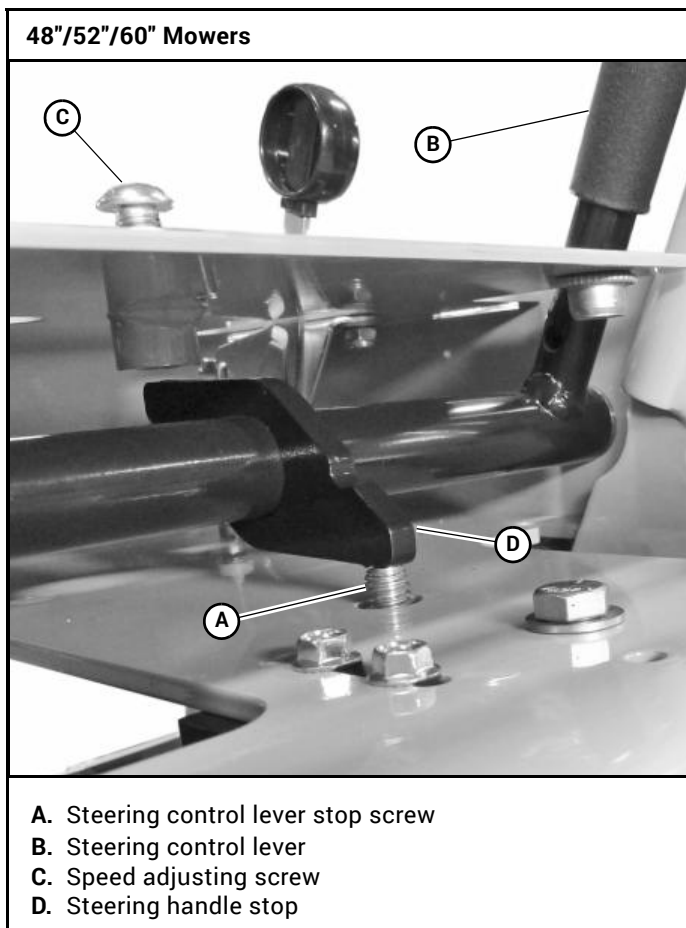

Figure 4-8
3. Loosen the lock nut and back the speed adjusting screw out until it does not contact the steering handle stop. Repeat for other side. Figure 4-8
5. Move the steering control lever on the slower speed side forward until it makes contact with the steering control lever stop. Turn the speed adjusting screw down until it makes contact with the steering handle stop (finger tight). Tighten lock nut. Figure 4-8
6. Move the steering control lever on the faster speed side forward until it makes contact with the steering control lever stop. Turn the speed adjusting screw down until it makes contact with the steering handle stop (finger tight). Using a wrench turn the adjusting screw an additional 1/4 turn. Tighten lock nut. Figure 4-8